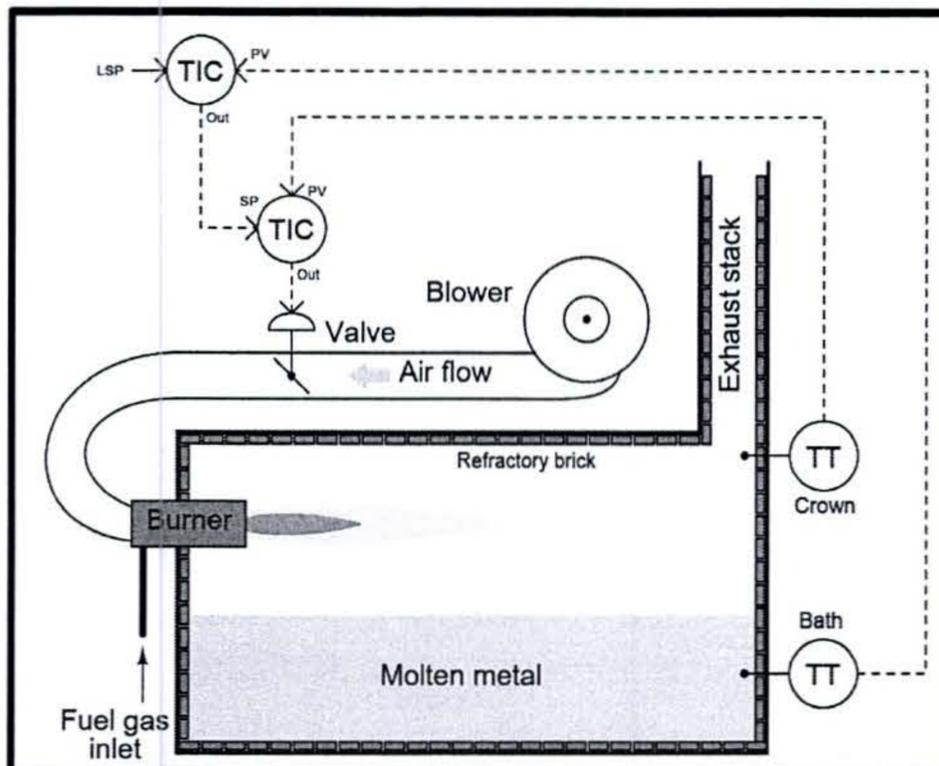

Figure B.2 Metal-melting furnace.
5. (a) Examine metal-melting controlled furnace in Figure B.2 and answer the following questions: